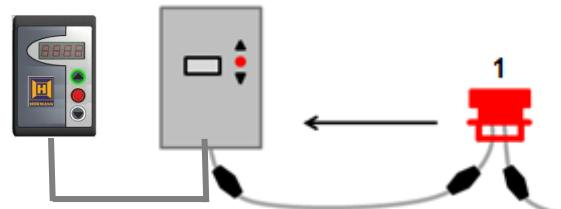

Figure 6: Connecting to the door controller with control unit TST UTH
- Connect the first motion detector and the TST UTH to the door controller (Figure 6).